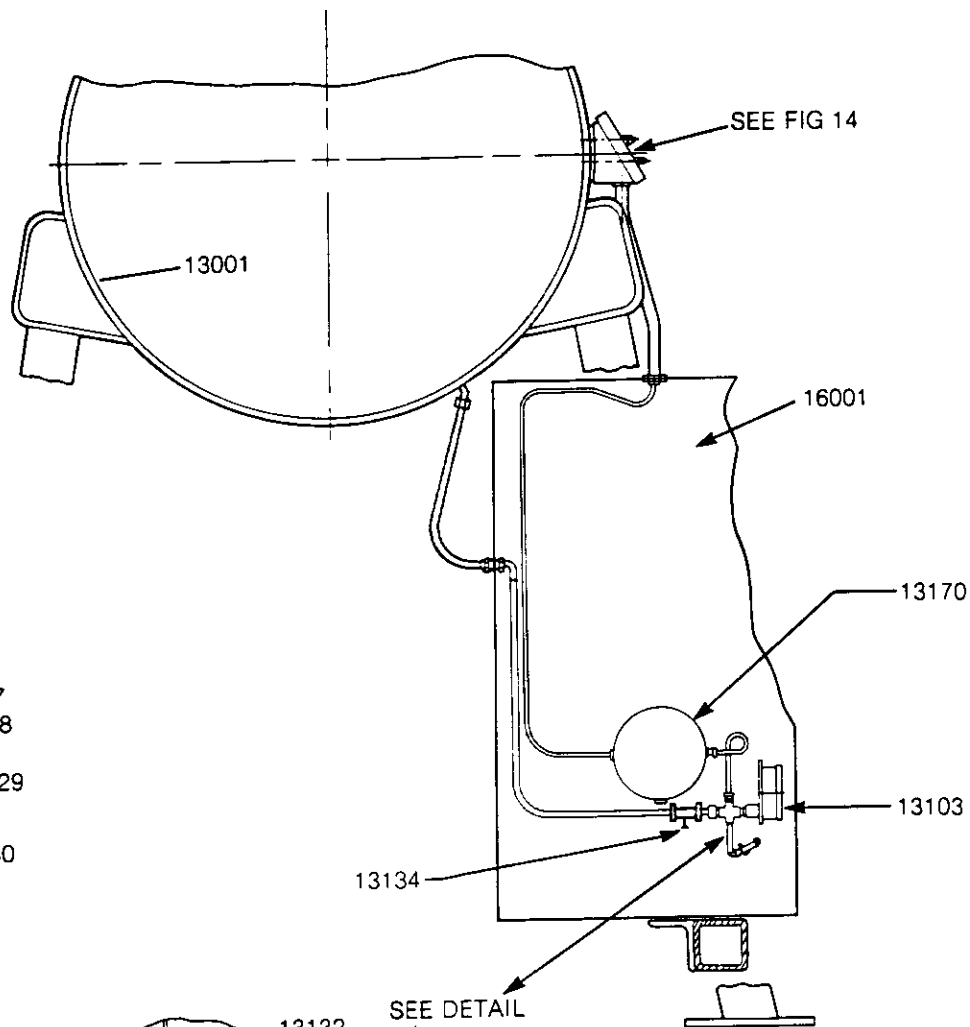

FIG. 16
- READ ALL PRESSURES ON THE PRESSURE GAUGE 13103 FIG. 16 LOCATED IN THE CONTROL HOUSING 16001